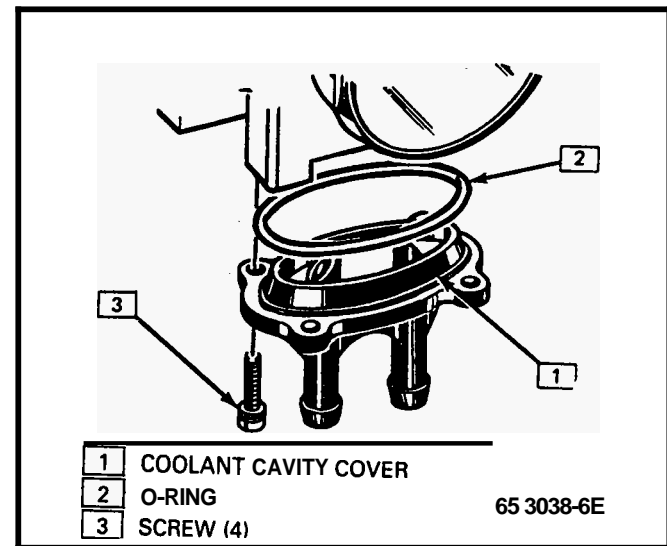

Figure C2-19 - Coolant Cavity Cover Asm. (Typical)
**Remove or Disconnect (Figure C2-19)**